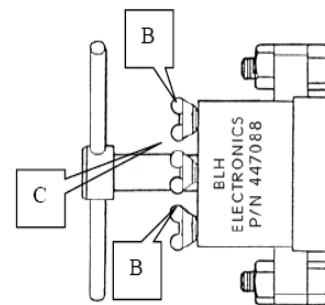

Fig 3.6 Weld Fixture Installed in Clamp Tool
- d) Attach mounting bolt/welding fixture assembly, step a) to the clamp tool with the thumbscrews 'B' as shown in figure 3-6. **Tighten by hand.**